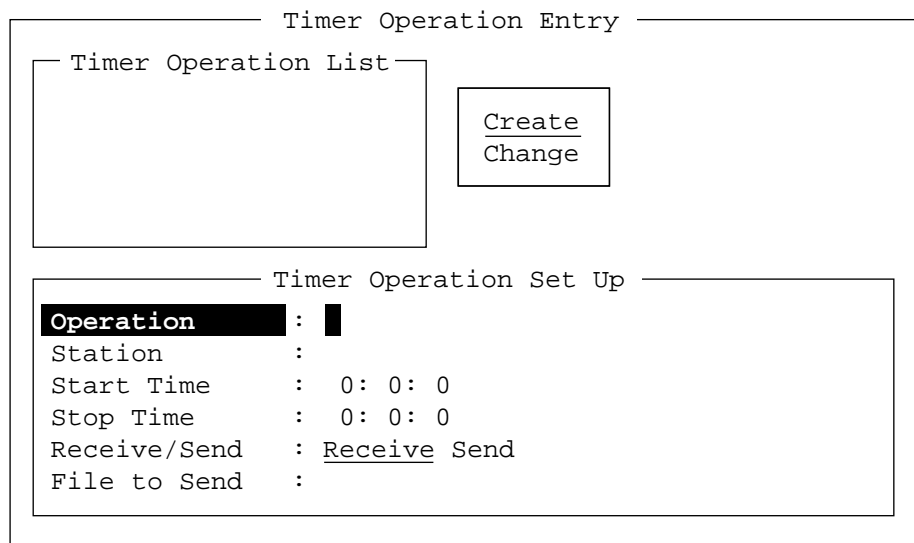

Figure 3-7 Timer operation entry screen
1. Press function key [F5]. Press the [2] key to select Timer Operation Entry. The screen should look something like Figure 3-7.